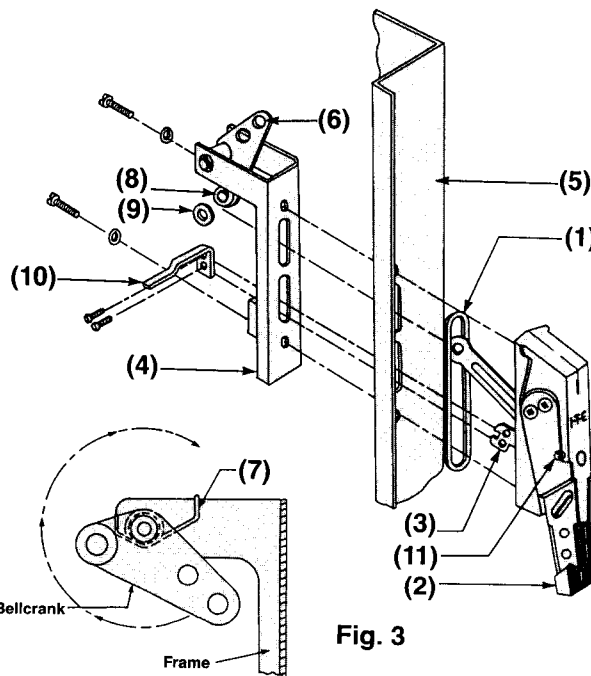

Fig. 3
- D. Rotate the bellcrank (6) clockwise to engage the return spring (7). Hold the bellcrank in position and place the plastic washer and connecting link onto the bellcrank pin (8). Using pliers, secure the connection with an E-ring (9). See Figure 3.
- E. Mount the interlock lever extension (10) to the interlock lever (3) using two #6-32 x 3/8" machine screws and lockwashers. Screws mount through the threaded lever extension into the lever. See Figure 3.